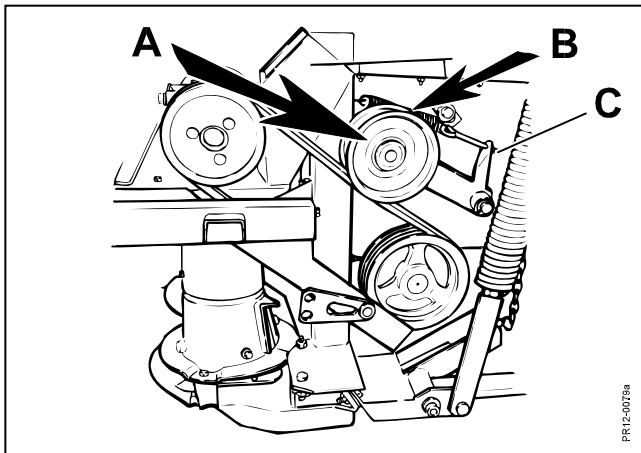

Fig. 5-17
- Fig. 5-17** The V-belts are tightened with the tension pulley **A**. The tension pulley is tightened automatically by a spring **B**. The spring should be adjusted so that there is always at least 1-2 mm "air" between the loops. The adjustment is made by means of a nut at **C**.